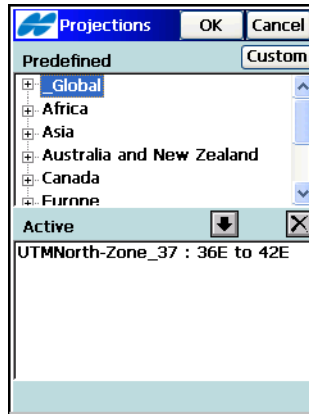

Figure 3-71. Projections
- ***Projection*** – specifies the projection used. The **List**  button opens the ***Projections*** screen (see Figure 3-71 on page 3-75) where active projections can be manipulated (added from a list of pre-defined projections, deleted).
The **Projections** screen contains a list of cataloged projections to select for the job (Figure 3-71 on page 3-75).
- **Active** – contains a list of selected projections (corresponds to the drop-down list in the **Projections** field of the **Coordinate System** screen). The first time the screen is opened, it is empty (Figure 3-71 on page 3-75).